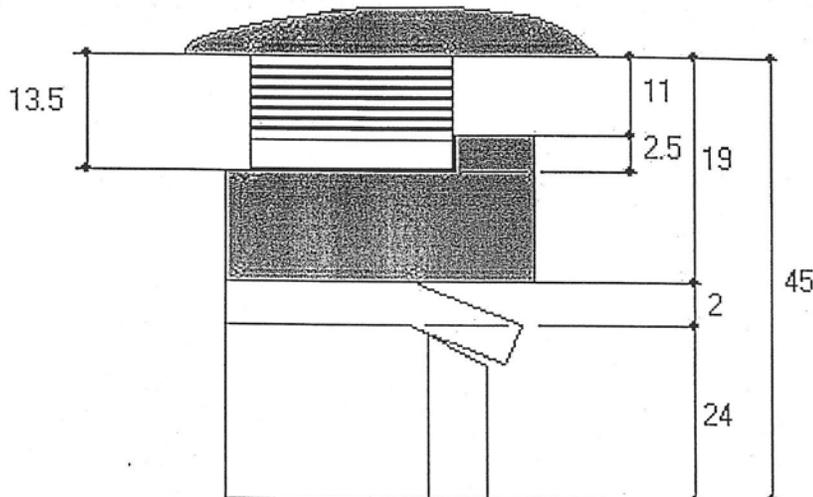

Figure 7. Spring compression height requirement.
9. Check the compression adjustment of the rubber dampener assembly. The distance between the lower surface of the SKF nut (**ITEM NO. 73, DRAWING NO. 79133**) and the lower surface of the rubber buffer holder (**ITEM NO. 45, DRAWING NO. 79133**) should be **11 mm**. This corresponds to an available height of **13.5 mm** for the spring washers (**ITEM NO. 83, DRAWING NO. 79133**). Refer to the figure 7 below for details.